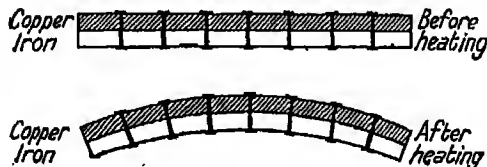

FIG. 211.
**Expt. 259.** Take a bar which has been made by riveting together two flat strips of different metals, e.g. copper and iron. Note that the bar is straight. Now heat the bar equally on both sides with the bunsen flame. The bar bends. As the bar cools it becomes straight again (Fig. 211). The metals expand unequally. As the metals were riveted together, the only way in which one metal could expand more than the other was for the compound bar to bend. The outside curve is longer than the inside one. The figure makes this clear.